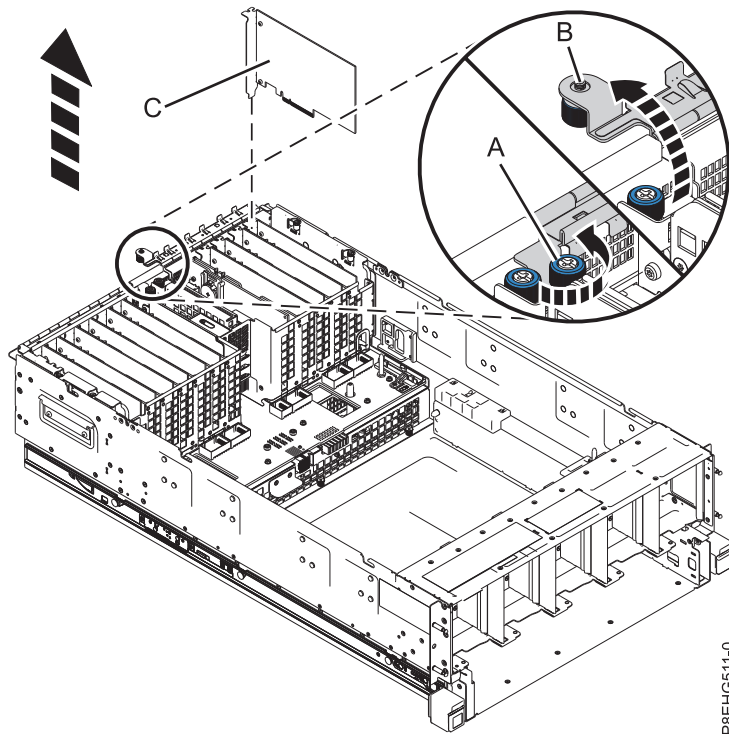

Figure 7. Removing a PCIe adapter
- a. Loosen the thumbscrew (A) in the direction shown. Rotate the adapter latch (B) to the open position on the back of the system, as shown in Figure 7.
- b. Carefully grasp the adapter or filler (C) by its top edge or tailstock, and remove the adapter or filler from the slot, as shown in Figure 7.